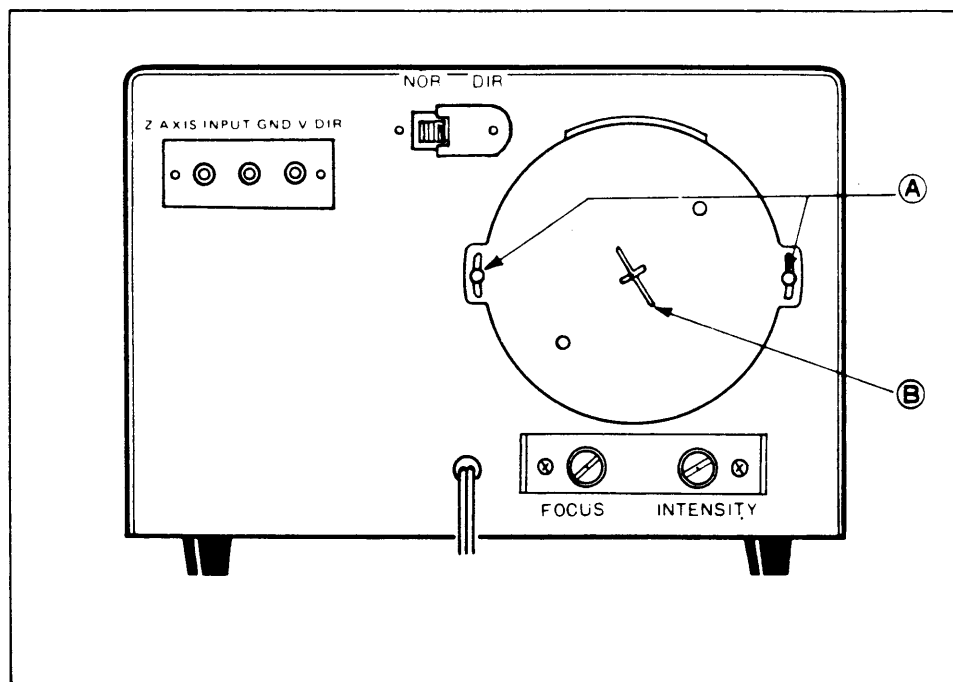

Fig. 8. Trace Rotation Adjustment.
3. Refer to Fig. 8. Loosen the two screws
3. Completely remove the two screws which attach the CRT mounting plate to the rear of the chassis (Fig. 8).